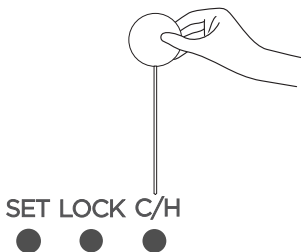

Figure 3.18
1) In Cooling Only mode, press ^{C/H} ● to turn on the Cooling and Heating function. (see Figure 3.18)